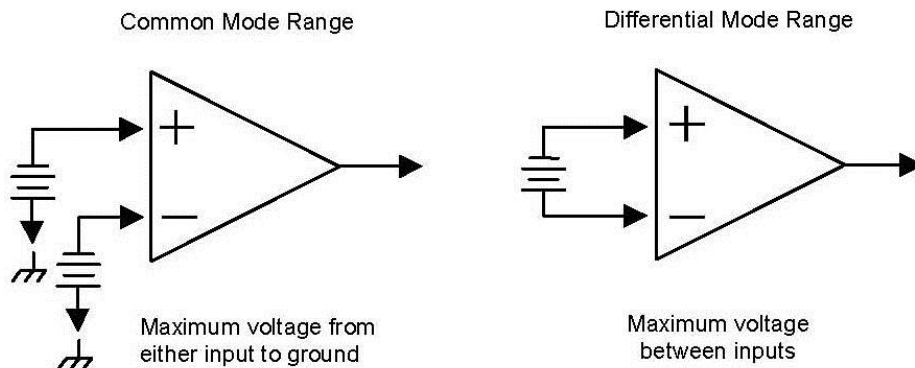

Figure 11, Common Mode and Differential Mode Range
11. Adjust Offset (R330) to bring the trace back to exactly center screen. (See Figure 11.)
9. Adjust GAIN (R322C) so that the DMM reading is within ± 1 mV (0.5%) of the reading recorded in step F-6. (See Figure 11.)